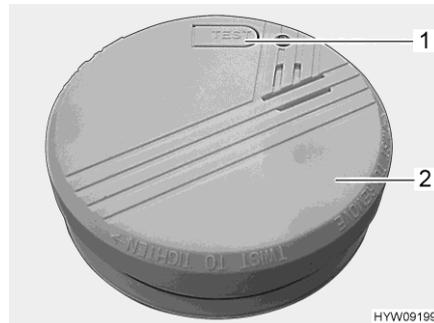

Fig. 114 Smoke alarm
- Turn the smoke alarm (Fig. 114,2) anticlockwise until it can be released from the holder.
- Test the smoke alarm. To do this, press the test button (Fig. 114,1). The alarm must sound.